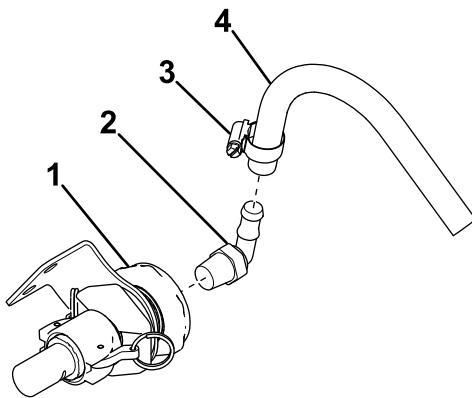

Figure 9
2. Install a 90° hose fitting onto the end of the bulkhead (Figure 9).
3. Secure the 45 cm (18 inch) hose to the 90° hose fitting with a hose clamp (Figure 9).